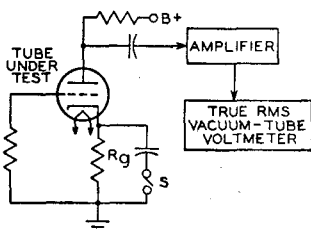

Fig. 99
**Hum and noise characteristics** of high-fidelity audio amplifier tube types such as the 7025 and the 7199 are tested in an amplifier circuit such as that shown in Fig. 99. The output of the test circuit is fed into a low-noise amplifier. The bandwidth of this amplifier depends on the characteristic being measured. If hum alone is being tested, a relatively narrow bandwidth is used to include both the line frequency and the major harmonics generated by the tube under test. In noise or combination hum-and-noise measurements, the bandwidth is defined in the registration of the tube type.